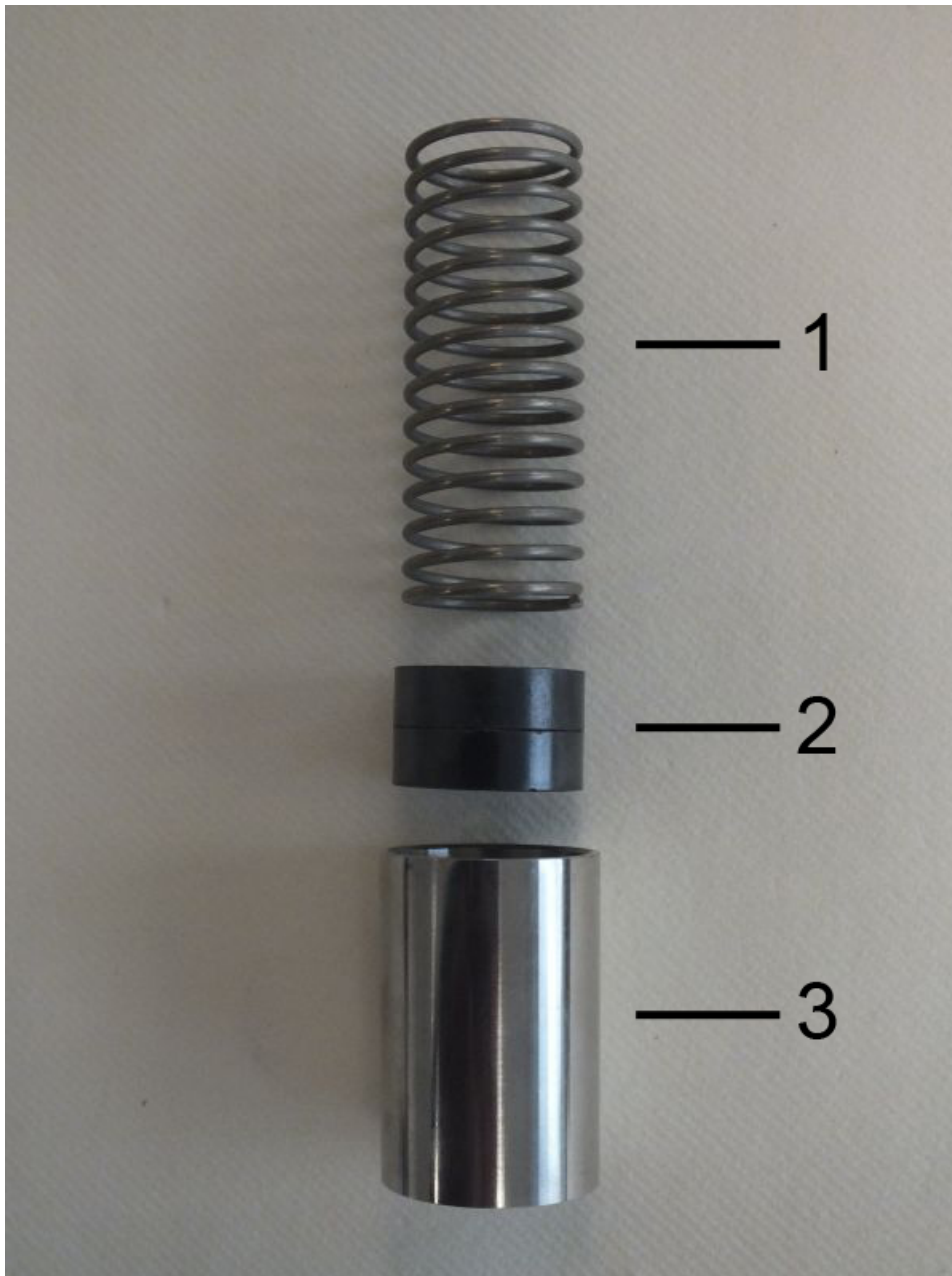

Fig. 54: Spring, magnets and float
12. ➤ The inner parts of the flow monitor consist of the spring (Fig. 54/1), magnets (Fig. 54/2) and float (Fig. 54/3).